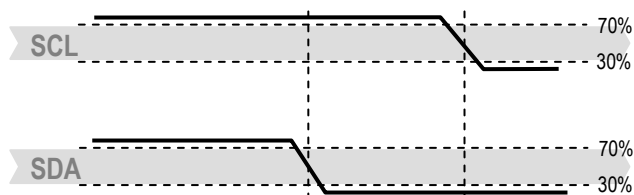

Figure 10 Transmission Start condition (S) - a high to low transition on the SDA line while SCL is high. The Start condition
Each transmission sequence begins with Start condition (S) and ends with Stop condition (P) as displayed in Figure 10 and Figure 11.